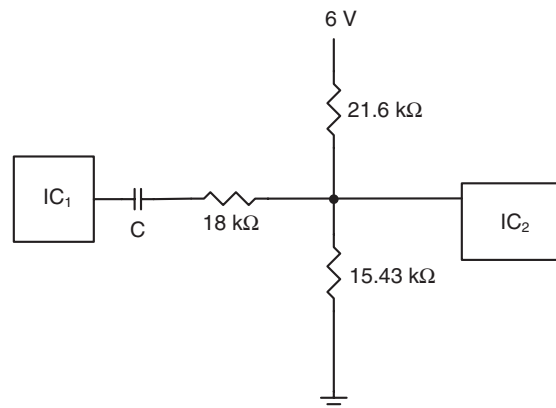

Figure 1.14. Circuit for Problem 1.6.
- 1.6** A coupling network connects components IC_1 and IC_2 as shown in Figure 1.14. Assume the output impedance of IC_1 is zero, the input impedance of IC_2 is infinite, and the capacitor appears as a short circuit to the signal of interest.